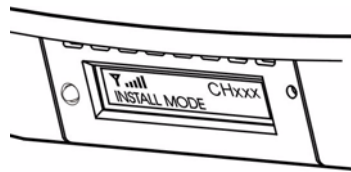

Figure 3.6: Displayed signal strength
10. It is recommended that various outside roof and exterior wall locations, and locations within the building be tested to identify the best DU location. The LCD display on the DU will help you identify the location where the signal strength is strongest. The LCD display on the CU indicates the signal strength that the DU is receiving. figure 3.6 shows 5 bars of signal strength. Five bars is maximum.